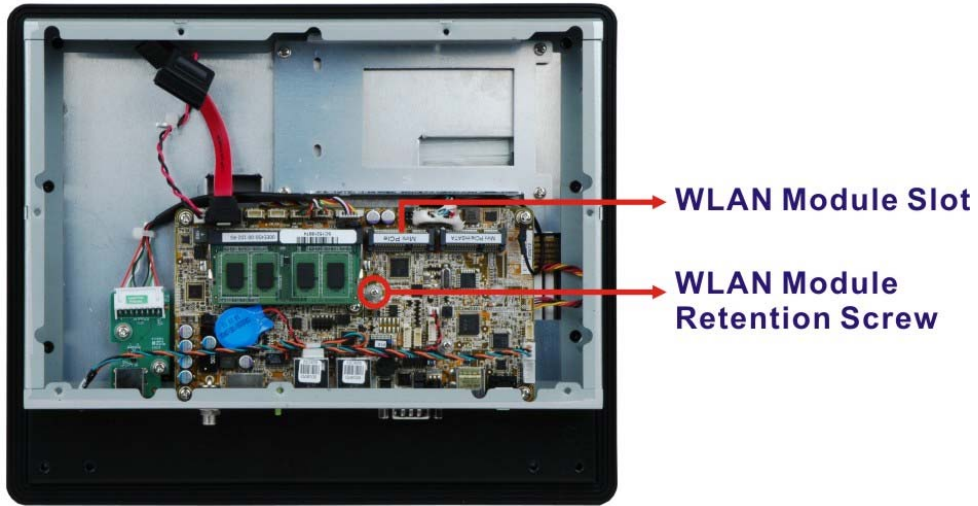

Figure 3-9: PCIe Mini Slot Location
Step 3: Locate the PCIe Mini slot (Figure 3-9).